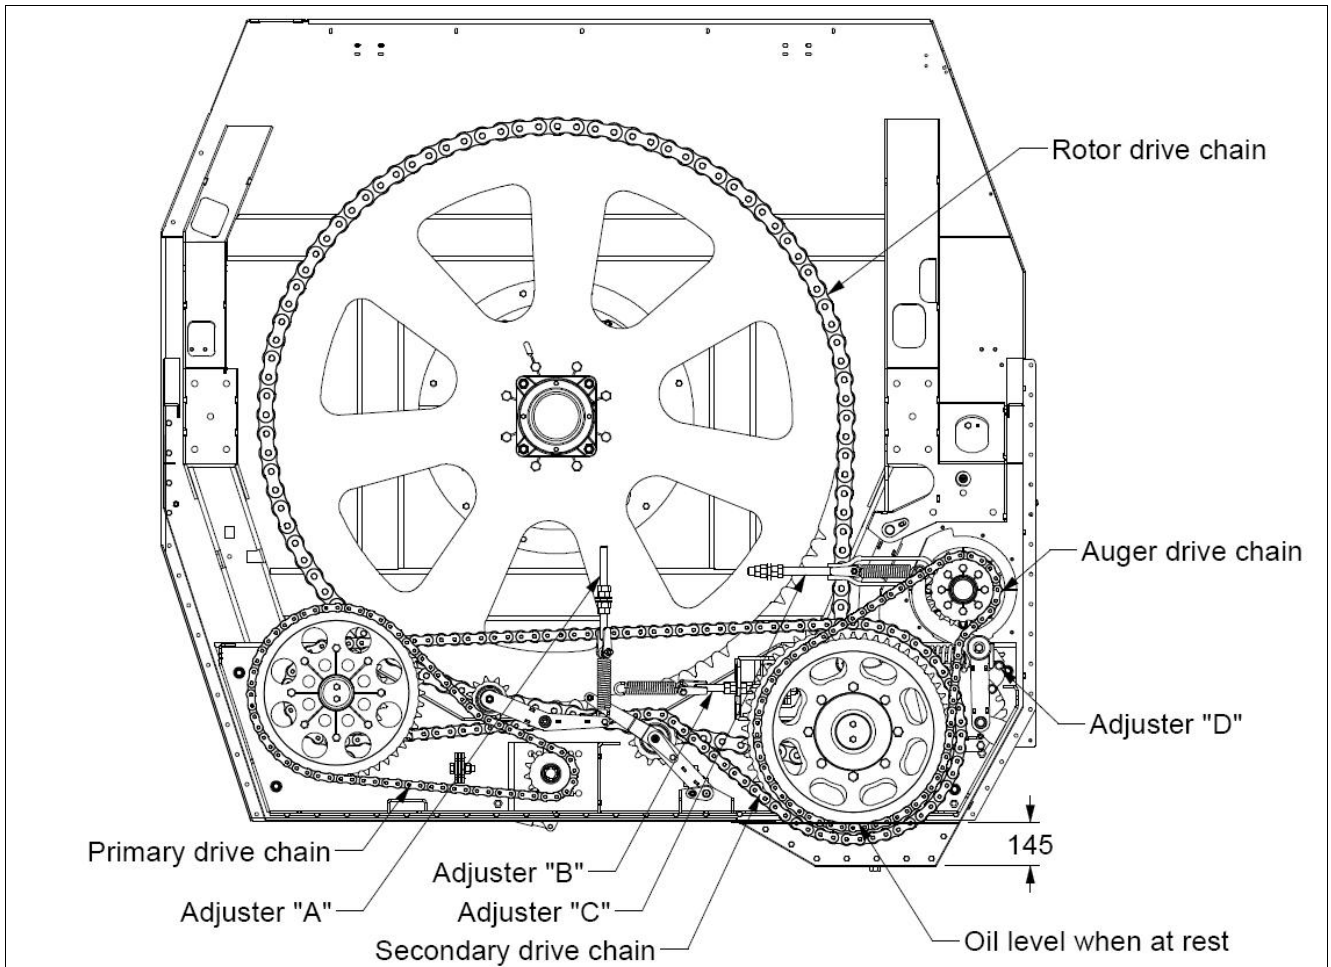

Figure 8: Keenan Mech-Fiber 400 drive system
1. Each week check the condition of the chain tension arms and adjust as required. There are four chains used on the Mech-Fiber 400 model. The primary drive chain (ASA120) drives the primary idler shaft from the input shaft (see figure 8) and the secondary chain (ASA140HS) drives the secondary idler. The third chain (ASA200HS) drives the rotor. The fourth chain (ASA120) drives the auger independently. All four chains are tensioned by a spring assembly on the slack side of the chain.
2. Each day check the level of the oil reservoir (see figure 8). If the oil level is low, top it up with light hydraulic oil, grade SAE32 or similar. Do not use grease on the chains, as it is unsuitable for the application and will not allow lubrication of the vital internal parts of the chain.
Primary Chain: This preload tension can be set by adjusting the vertical threaded bolt in the centre of the drive system (adjuster “A” in figure 8). The correct tension will be applied to the chain when the tension spring is extended to 220mm between mounting centres. Once set, retighten all locking nuts.
Secondary Chain: The preload tension on this chain can be set by adjusting the horizontal threaded bolt situated behind the secondary idler shaft driven sprocket (adjuster “B” in figure 8). As above the correct tension will be applied to the chain when the tension spring is extended to 220mm between mounting centres. Once set, retighten all locking nuts.
Auger Chain: The preload tension on this chain can be set by adjusting the horizontal threaded bolt situated to the front of the drive system (adjuster “C” in figure 8). Again as above the correct tension will be applied to the chain when the tension spring is extended to 220mm between mounting centres. Once set, retighten all locking nut.
Rotor Chain: The preload tension on this chain can be set using the adjuster pivot arm mechanism on the left side of the machine directly below the auger shaft (adjuster “D” in figure 8). To access this mechanism open the top left cover. Open the nut from the M16 fixing bolt and using a spring clamp or a lever bar compress the spring and remove the bolt. Using the same method as before now compress the spring to approx 255mm. Ensuring that the spring is seated correctly, replace the M16 bolt & nut in the appropriate position and tighten.